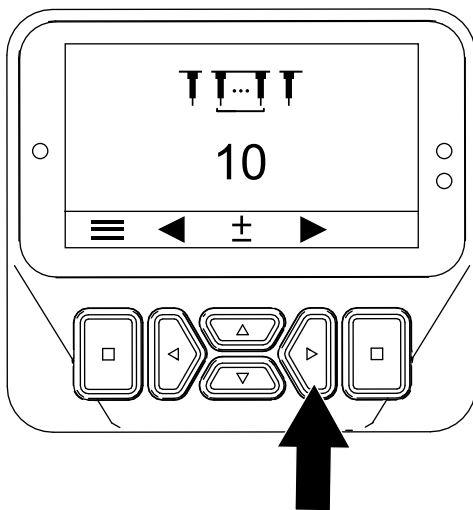

Figure 50
7. Press the right button to display the Setting the Tine Quantity screen (Figure 50).